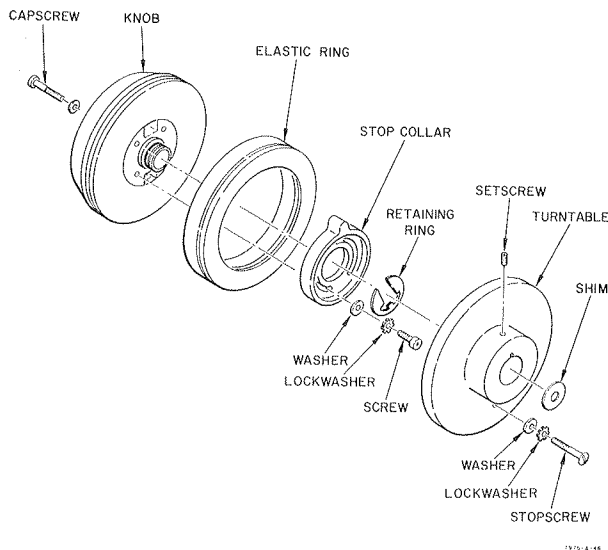

Figure 6-14. Holddown Knob Adjustment Parts
b. Loosen setscrew (figure 6-14) and remove hex head capscrew and washer. Pull holddown knob assembly from motor shaft, taking care not to lose reel motor shims.